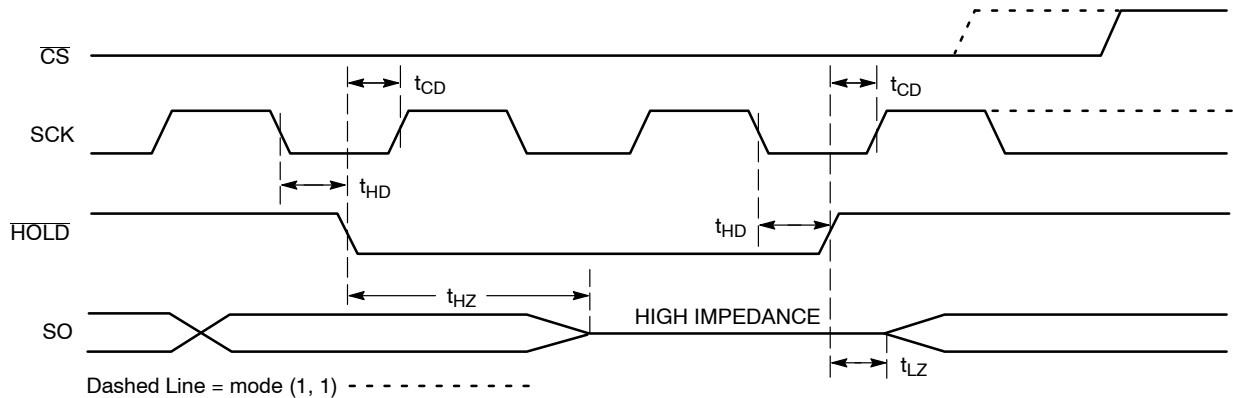

Figure 11. $\overline{\text{HOLD}}$ Timing
The $\overline{\text{HOLD}}$ input can be used to pause communication between host and NV25320MUW. To pause, $\overline{\text{HOLD}}$ must be taken low while SCK is low (Figure 11). During the hold condition the device must remain selected ($\overline{\text{CS}}$ low). During the pause, the data output pin (SO) is tri-stated (high impedance) and SI transitions are ignored. To resume communication, $\overline{\text{HOLD}}$ must be taken high while SCK is low.